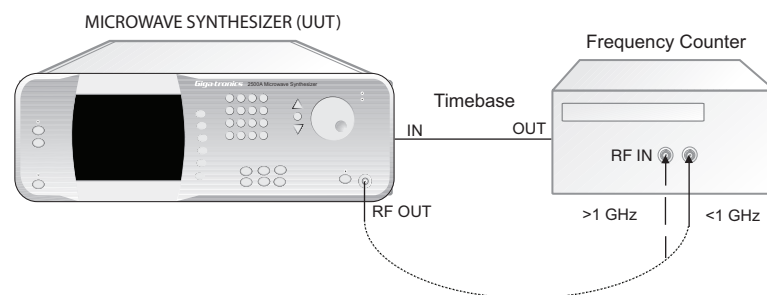

Figure 4-1: Frequency Range, Resolution & Accuracy Test Setup
1. Connect the equipment as shown in Figure 4-1. Connect the 2500A RF Output to the low frequency input using coaxial cabling and adapters as is necessary. Allow the equipment to warm up for at least 30 minutes. Because the 2500A and the counter use the same timebase, timebase errors are eliminated. The 2500A automatically switches to the external reference when it is connected.